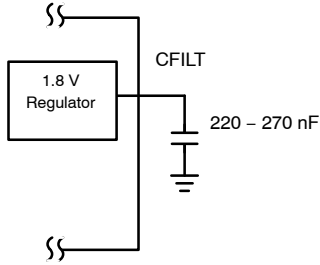

Figure 4. CFILT Capacitor
3. C_{FILT} capacitor must be installed; see Figure 4.
4. Outputs loaded with 15 pF max to ground. C_{FILT} capacitor must be installed; see Figure 4.